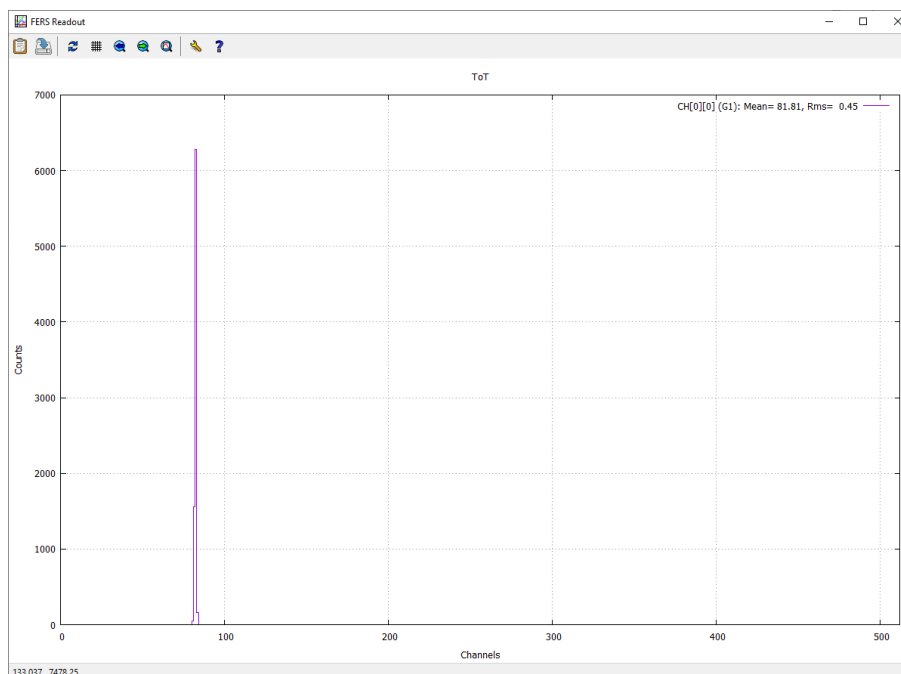

Fig. 10.31: Example of Time over Threshold (ToT) spectrum obtained with the internal pulser.
10. Select "Spec ToT" for the "Plot Type" parameter in order to visualize the histogram of the ToT values for the selected channel. An histogram similar to that in Fig. 10.31 will be displayed.